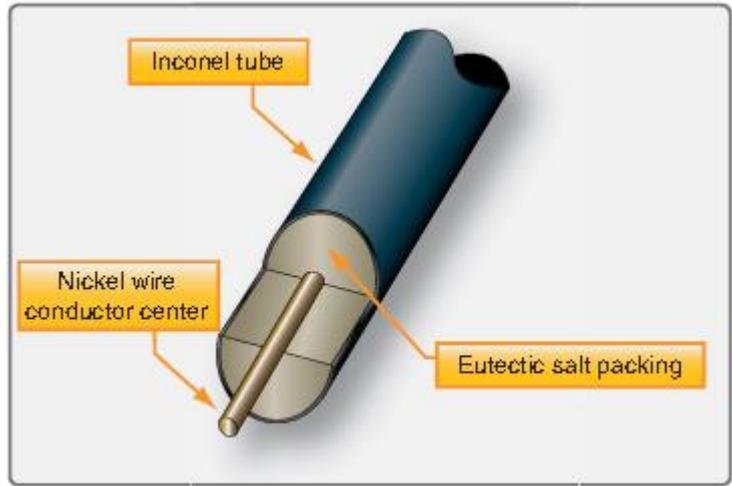

Figure 17-3. Fenwal sensing element.
1. The Fenwal system uses a slender Inconel tube packed with thermally sensitive eutectic salt and a nickel wire center conductor. [Figure 17-3] Lengths of these sensing elements are connected in series to a control unit.